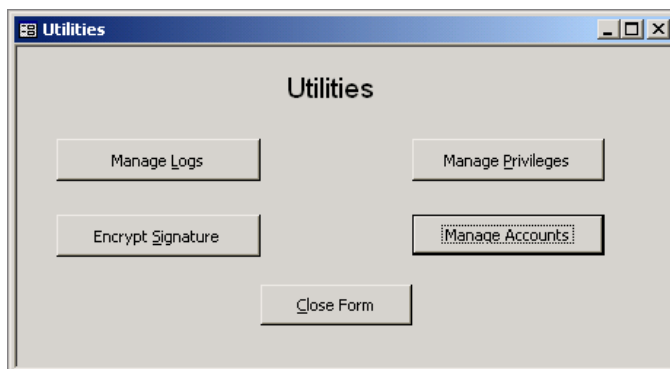

Figure 5-3
2. Click **Manage Privileges** in the Utilities dialog box (Figure 5-3).